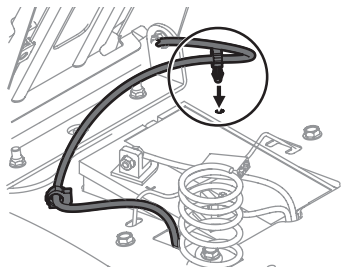

Figure 4
5. Using the harness clip attached to the harness, secure the excess wire to the fender by snapping the harness clip in place (Figure 4).